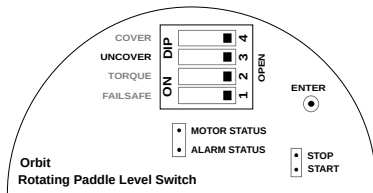

Figure 16: Saving Uncover Delay
4. Uncover delay is entered, but not saved. To save and test the uncover delay, set the UNCOVER switch back to OPEN position as shown in figure 16.